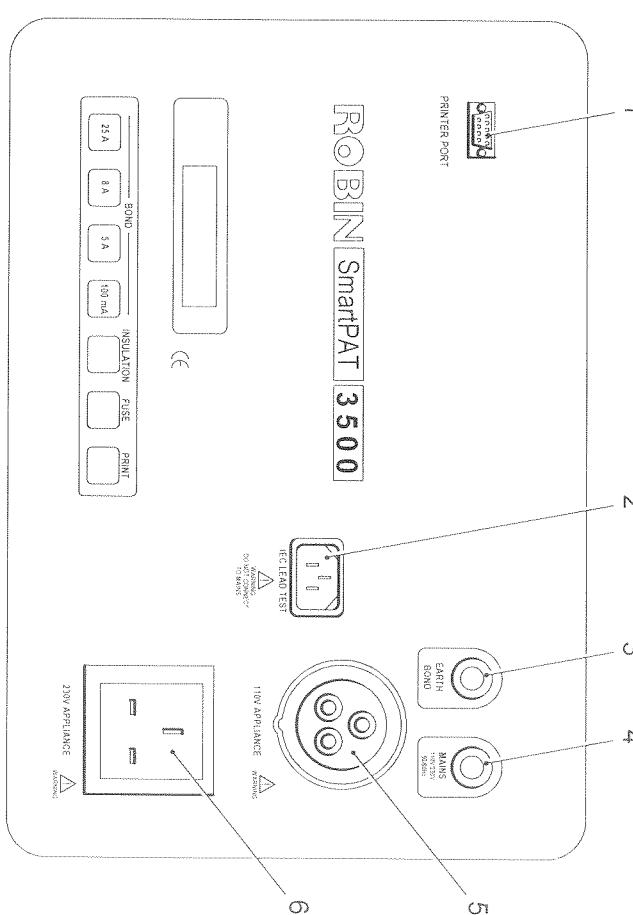

Figure 2 Controls and Accessories
The cables, connectors, controls and indicators of the SmartPAT 3500 are shown in Figure 2 and listed below, together with a brief functional description:
- Mains Captive mains cable to connect to the mains supply with either a 13A, 230V or a 16A, 110V plug (via adaptor). (See Figure 2 (4)).
- Earth Bond Captive cable fitted with heavy duty crocodile clip, to connect to appliance under test. (See Figure 2 (3)).
- 110V Appliance Provides a socket to connect a 110V appliance to the test set for testing. (See Figure 2 (5)).
- 230V Appliance Provides a socket to connect a 230V appliance to the test set for testing. (See Figure 2 (6)).
- IEC Lead Test Enables IEC leads to be tested, used in conjunction with the 230V Appliance Input socket. (See Figure 2 (2)).
- Printer Port Allows an external printer to be connected to the Portable Appliance Tester. (See Figure 2 (1)).